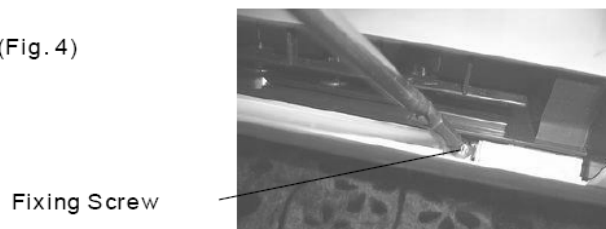

Fig. 4
2. Release the two screws under the both caps. (Fig. 4)